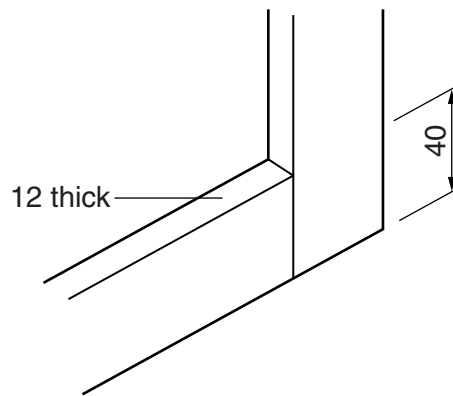

Fig. 9
- (e) Fig. 9 shows details of one corner of the door frame.